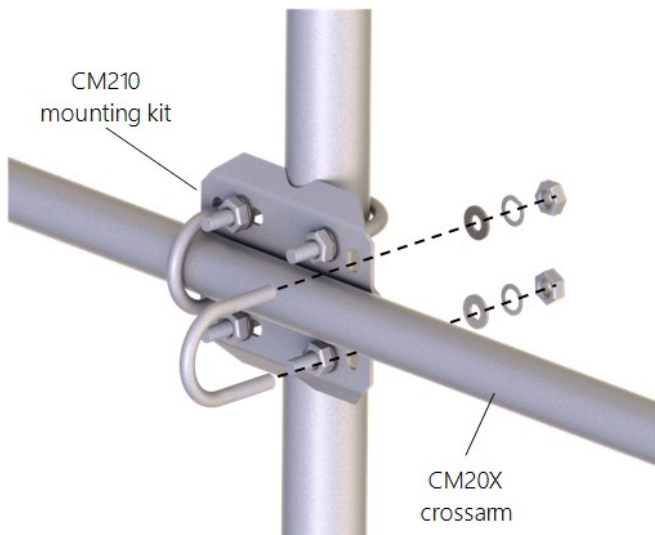

Figure 6-2. CM210 mounting kit with CM20X crossarm
1. Secure the chosen crossarm to a tripod or other vertical structure using a CM210 crossarm-to-pole mounting kit as shown in Figure 6-2 (p. 25).